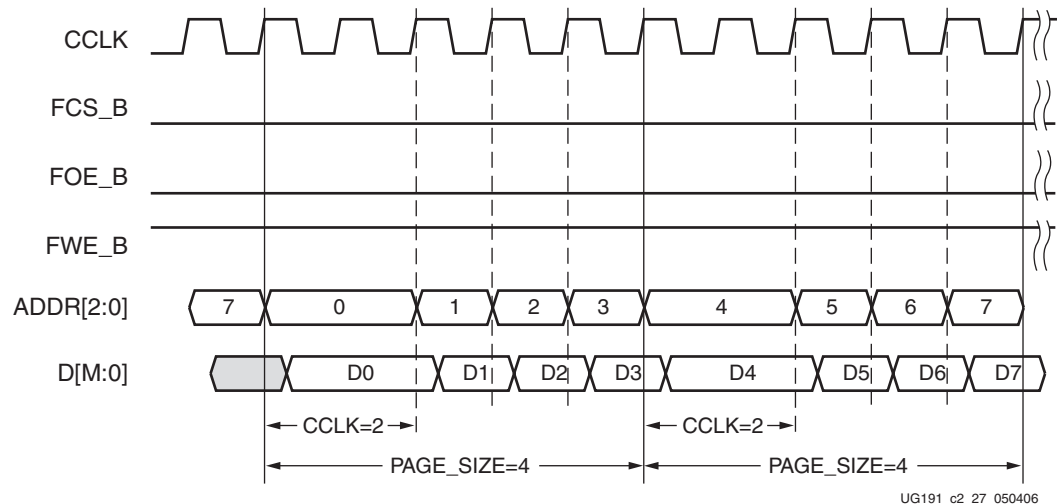

Figure 2-24: BPI-Up Waveforms (Page Size = 4 and First Access CCLK = 2)
the master CCLK is running at slowest default frequency. The COR0 register contains master CCLK frequency control bits (see “Configuration Options Register 0 \(COR0\),” page 122). The COR1 register contains BPI flash page mode control bits (see “Configuration Options Register 1 \(COR1\),” page 124). After the COR1 register is programmed, the BPI address timing switches at the page boundary as shown in Figure 2-24. When the SWITCH command is received, the master CCLK switches to a user-desired frequency, using it to load the rest of the configuration.
Notes related to Figure 2-24:
- Figure 2-24 shows BPI-Up mode, a page size of 4, and a first access CCLK of 2.